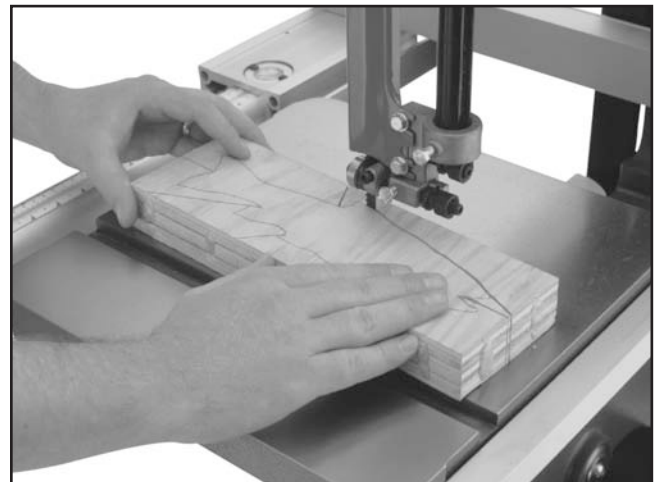

Figure 36. Typical stacked cut.
5. Cut the stack of pieces as though you were cutting a single piece. Follow your layout line with the blade kerf on the waste side of your line as shown in **Figure 36**.